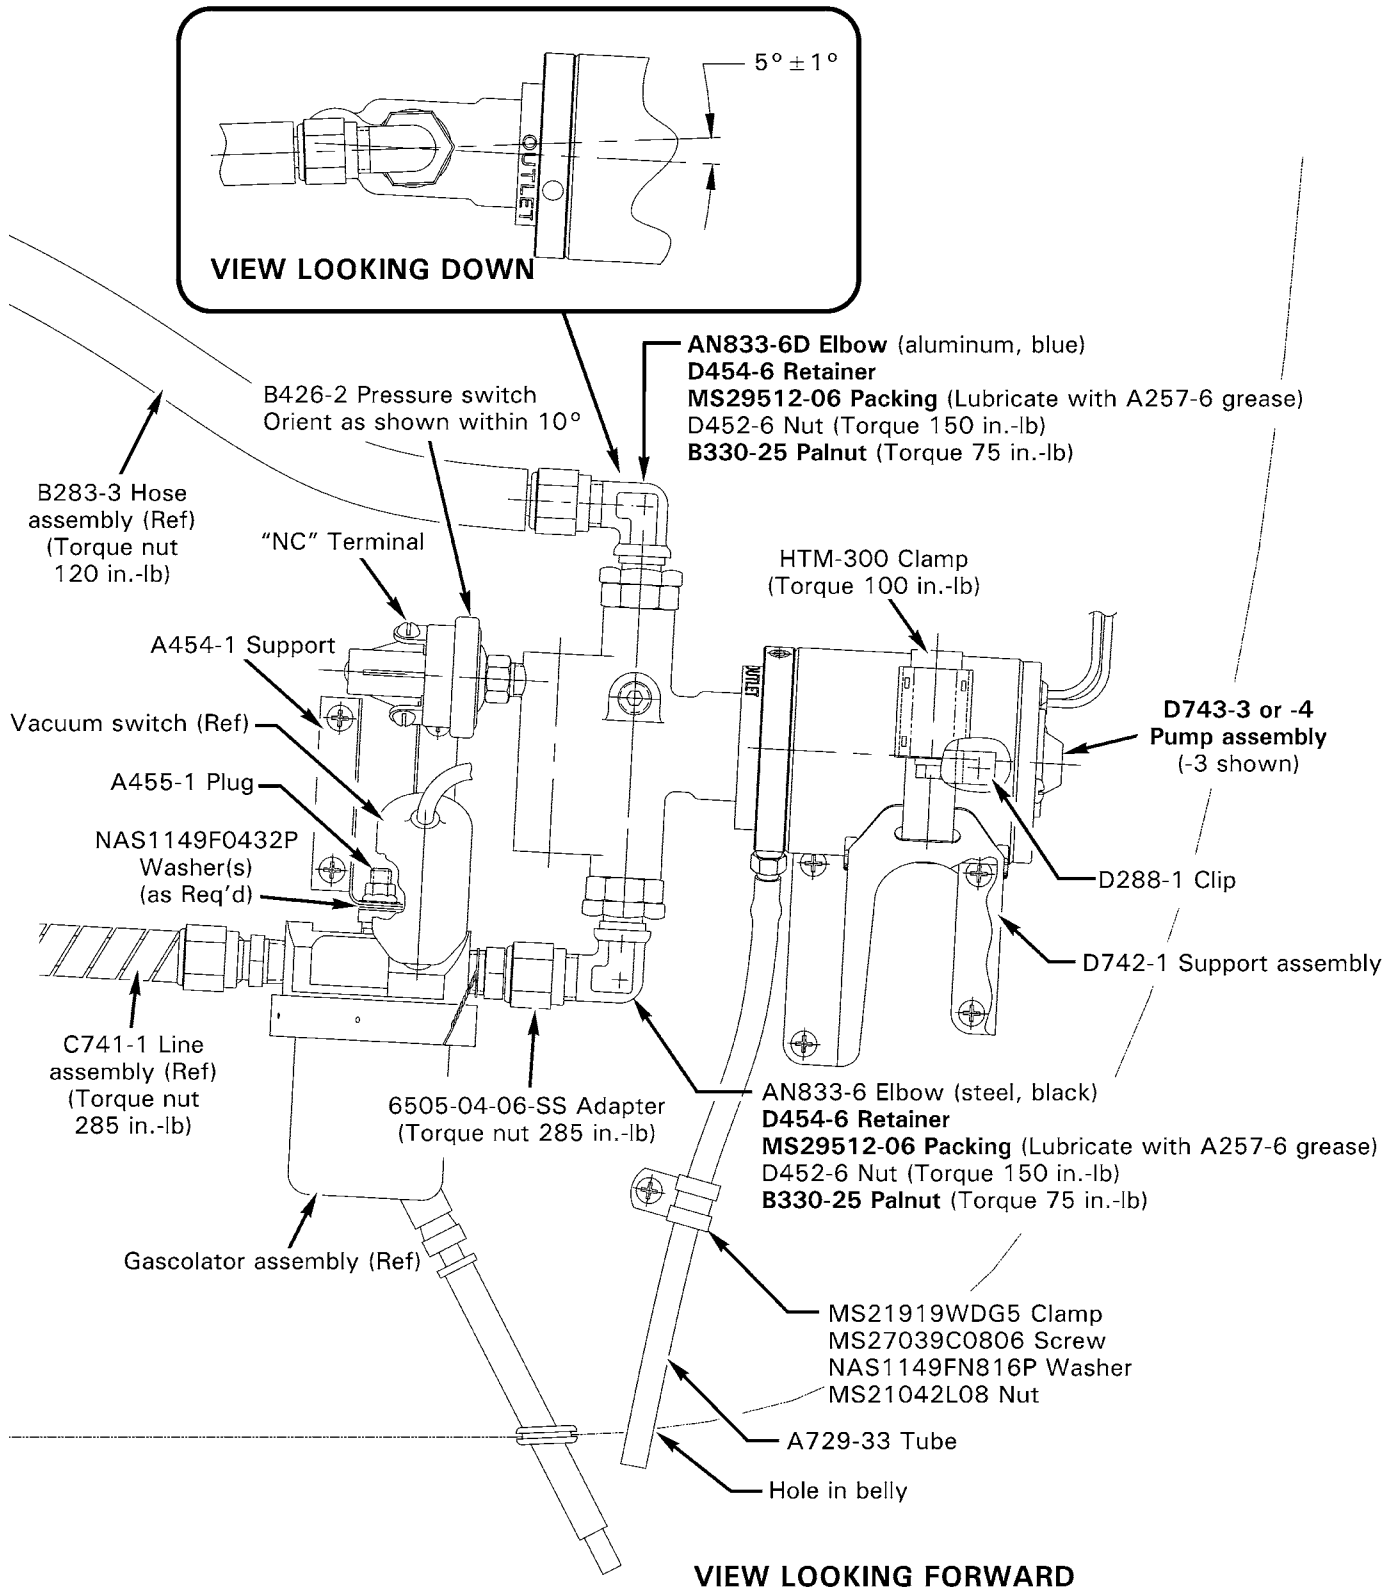

FIGURE 1
11. Refer to Figure 1. Install AN833-6 steel elbow in inlet, and new AN833-6D aluminum elbow in outlet of new D743-3 or D743-4 aux fuel pump assembly per the following:
- b. Rotate combined nut & retainer until packing is pushed against outboard threads. Screw elbow into pump until packing contacts pump, indicated by a sudden increase in torque. Hold nut with wrench and tighten elbow no more than one full turn until elbow points away from motor. Position the steel AN833-6 lower elbow parallel to the long axis of the pump. Per Figure 1, Detail A, position the aluminum AN833-6D upper elbow approximately 5° counterclockwise from parallel to long axis of pump (looking down). Hold elbow and special torque D452-6 nut to 150 in.-lb, special torque palnut to 75 in.-lb, and torque stripe per MM Figure 2-1.
12. Apply light coat of B270-6 sealant to B426-2 switch threads (do not apply sealant to first thread) and install switch in D743-3 or D743-4 aux fuel pump assembly. Standard torque B426-2 switch to 60 in.-lb, then tighten to orient NC terminal within 10° per Figure 1.